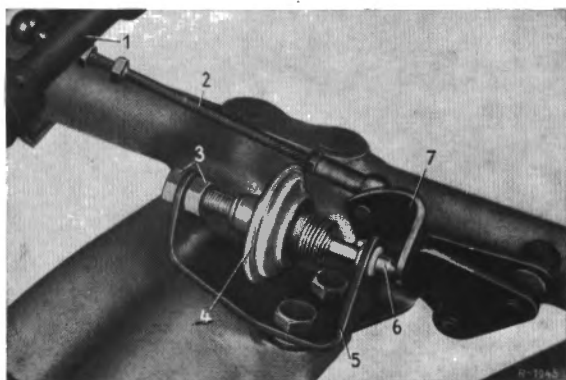

Fig. 00-16/8
The graduated disk should now indicate a 4° opening of the throttle valve. If this is not the case, the dashpot should be adjusted by means of the hexagon nuts (3) in such a way that the pin (6) lightly rests against the control lever (7) at a 4° opening (Fig. 00-16/8).